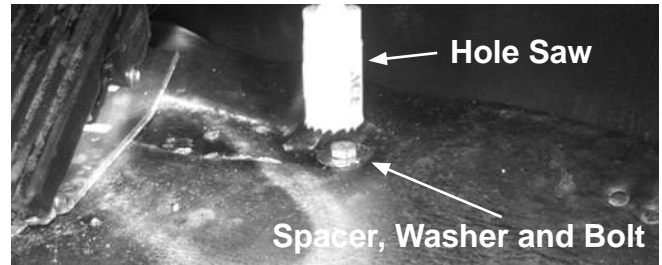

Figure 5-3
5. Using a hole saw, carefully trim away the floor mat around the clamped washer and spacer (see Figure 5-3).